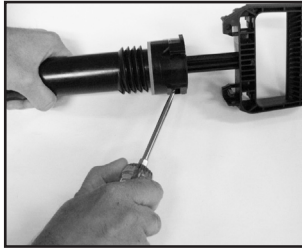
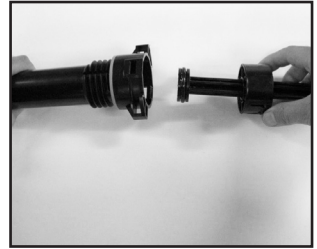

Figure 2
Figure 3
2. To disassemble pump cap from pump cylinder, push tabs in on both sides of the pump cylinder that lock the cylinder to the cap using a flat screwdriver (See Figure 2) and pry up pump cap. After the tabs are disengaged, the pump cap and handle can be removed from the pump cylinder. (See Figure 3)